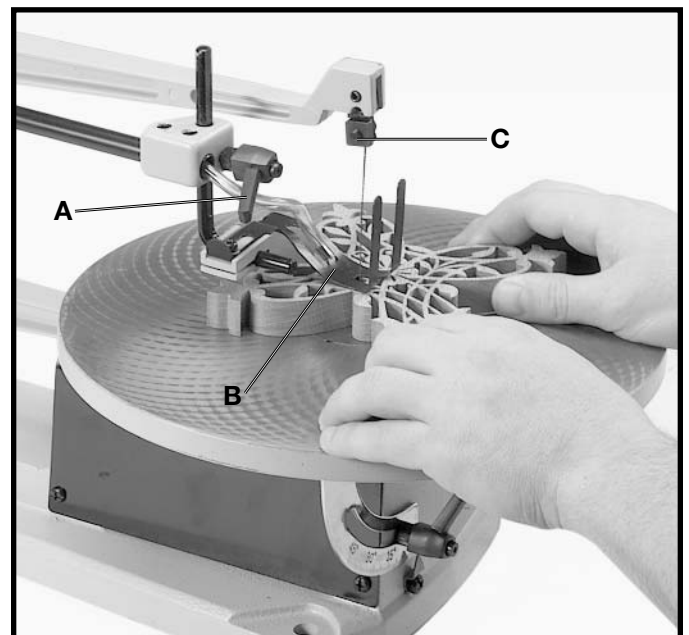

Fig. 25
Loosen lock handle (A) Fig. 25, and raise the holddown (B). Release blade tension by moving the blade tension lever to the vertical position as previously explained. Loosen upper blade holder screw (C) as previously explained. This will release the blade and allow you to thread the blade through the next hole in the pattern. Replace blade in upper blade holder and move blade tension lever to the horizontal position to re-apply blade tension. Lower holddown and you are ready to make the next cut.